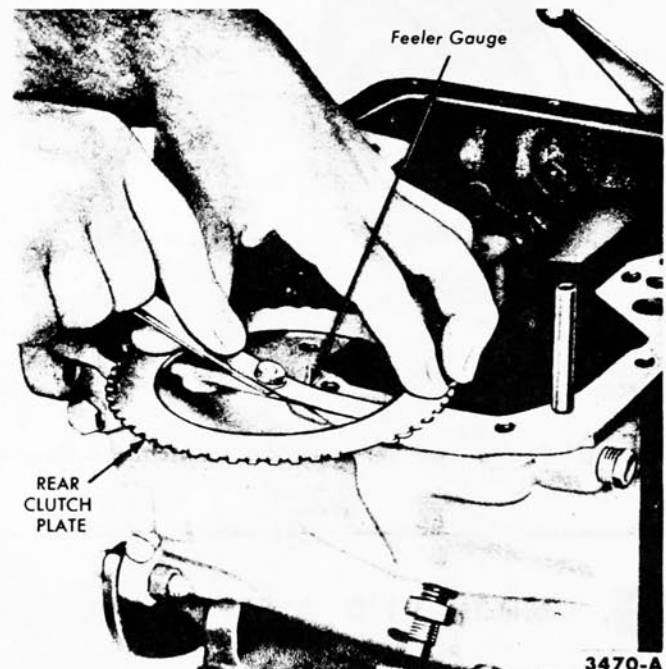

FIG. 13—Checking Rear Clutch Plate Coning
0.010-inch clearance (Fig. 13).